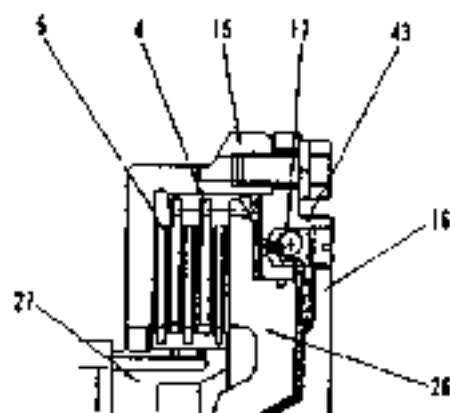

Fig. 2-20 No. 5 clutch disengagement
With the shut off of oil supply from the control valve, ball (17) moves under centrifugal force to the arrowed direction shown in Fig. 2-20. At this time the valve seat port is opened, the oil at the back space of cylinder block (16) can be discharged from it. The normal disengagement of discs and plates is ensured.